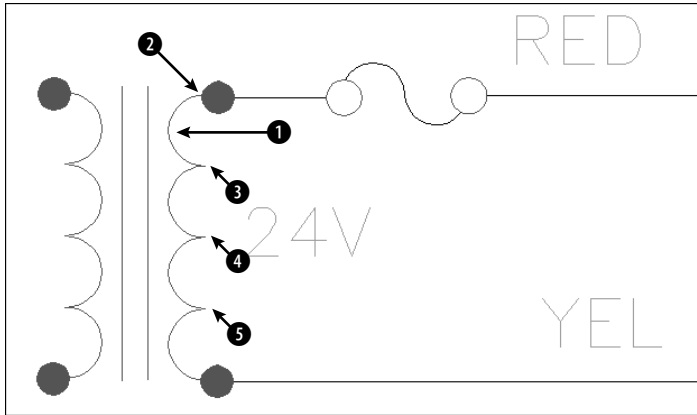

Figure 9-6: Close-up of the transformer.
4.  Note that three of the arcs that make up the right side of the transformer are missing. Pick the arc at 1 in Figure 9-6. Choose Copy from the Modify toolbar. Follow the prompts:
Specify base point or [Displacement] <Displacement>: Pick the endpoint at the top of the arc at 2 (see Figure 9-6).
Specify second point of displacement or <use first point as displacement>: Pick the endpoint at the bottom of the first arc at 3 (see Figure 9-6).
Specify second point of displacement or <use first point as displacement>: Pick the endpoint at the bottom of the second arc at ④ (see Figure 9-6).
Specify second point of displacement or <use first point as displacement>: Pick the endpoint at the bottom of the third arc at ⑤ (see Figure 9-6).